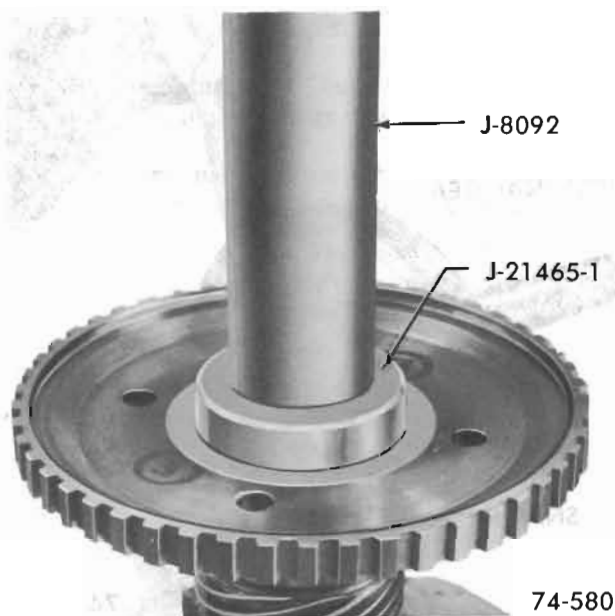

Figure 76-122
- b. Using Tool J-21465-1 install bushing. See Figure 76-122.